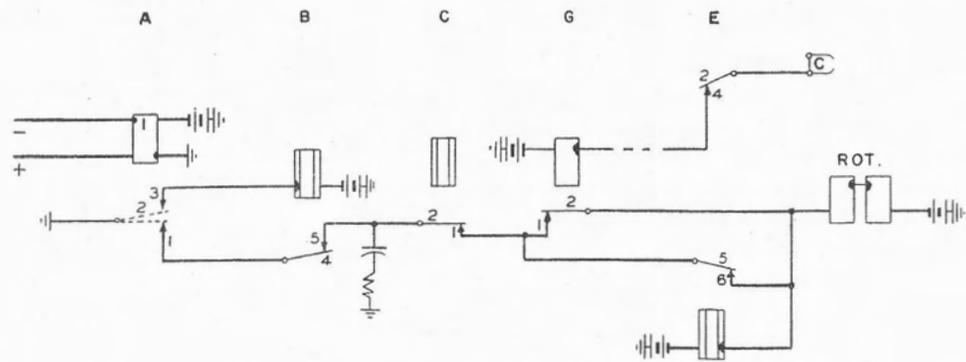

Figure 7. Rotary stepping.
12. ROTARY STEPPING (figure 7)